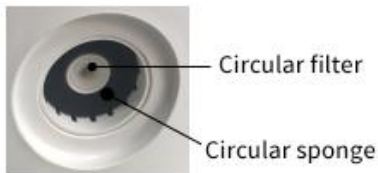

Figure 9
- Pull out the filter and replace it with a new one (see Fig. 9).